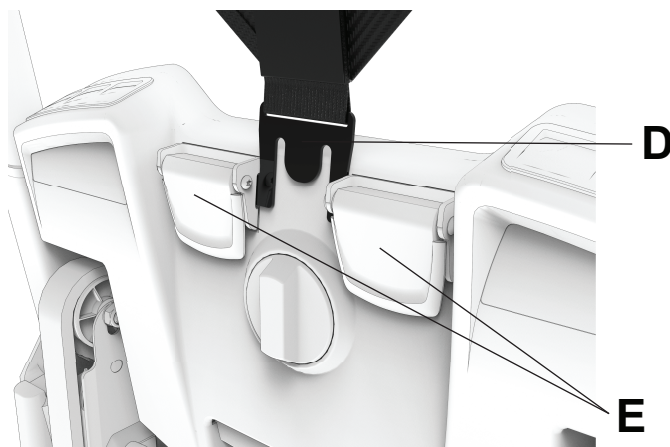

Figure 32 – Insert the hook
4. Push the plastic clip (D) at the bottom of the head support between the two black PCS cam mounts (E) on the back of the chair (Figure 32).